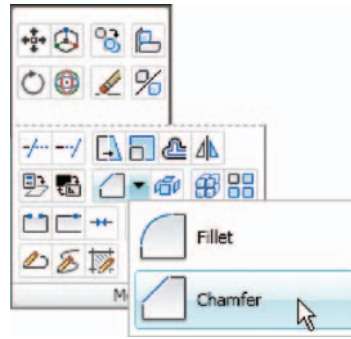

Fig. 12.31 The **Chamfer** and **Fillet** tools in the **Home/Modify** panel
The **Chamfer** and **Fillet** tools from the **Home/Modify** panel (Fig. 12.31), used to create chamfers and fillets in 2D drawings in AutoCAD 2009, can just as well be used when constructing 3D models.
3. Click the **Fillet** tool icon in the **Home/Modify** panel (Fig. 12.31). The command line shows:
4. Click the **Chamfer** tool in the **Home/Modify** panel (Fig. 12.31). The command line shows: